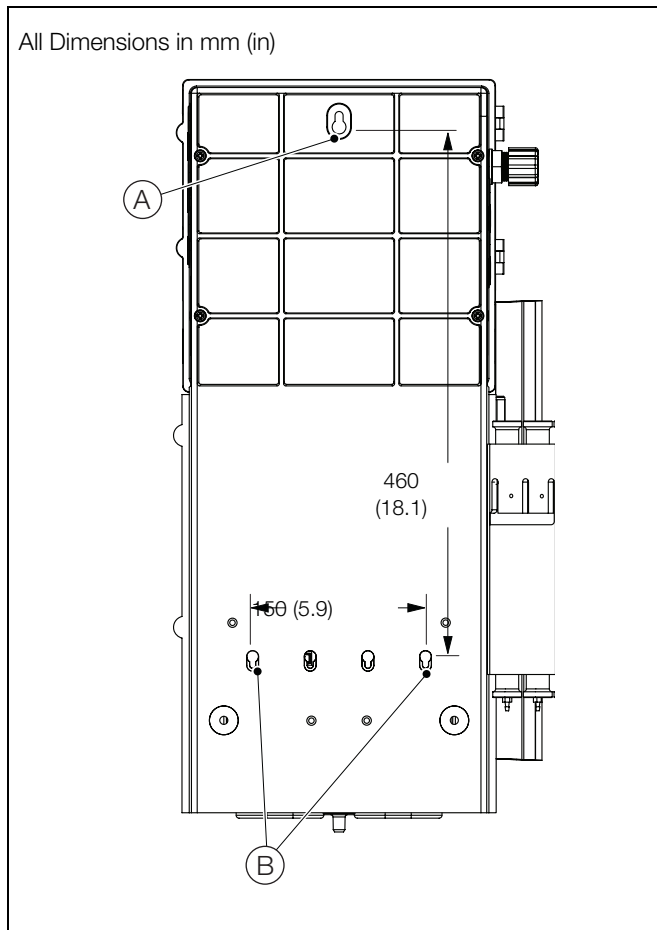

Fig. 3.2 Mounting the Analyzer
1. Mark the wall using the dimensions shown in Fig. 3.2.
2. Drill and plug the three holes (A) and (B), suitable for M6 or 1/4 in. screws/bolts.
3. Screw in the top bolt (A), leaving a gap of 20 mm (0.78 in.) between the screw head and the wall.